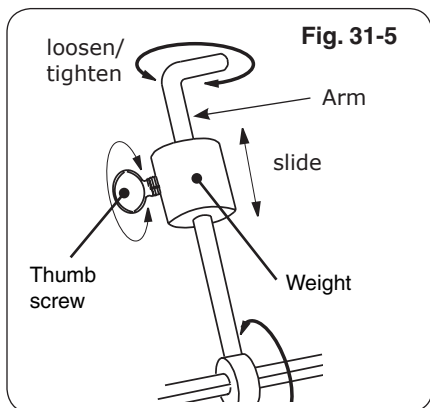

Fig. 31-5
7. Slide the counterbalance weight up or down the arm until the rod rotates most evenly then tighten thumb screw (Fig. 31-5 and Fig. 31-6).